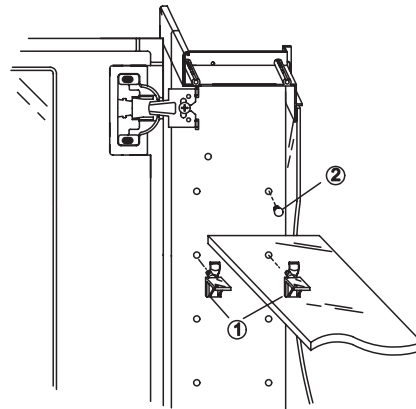

Fig. 15 图15
5. Installing the shelves- see Fig.15
5. 安装玻璃层板-见图15.